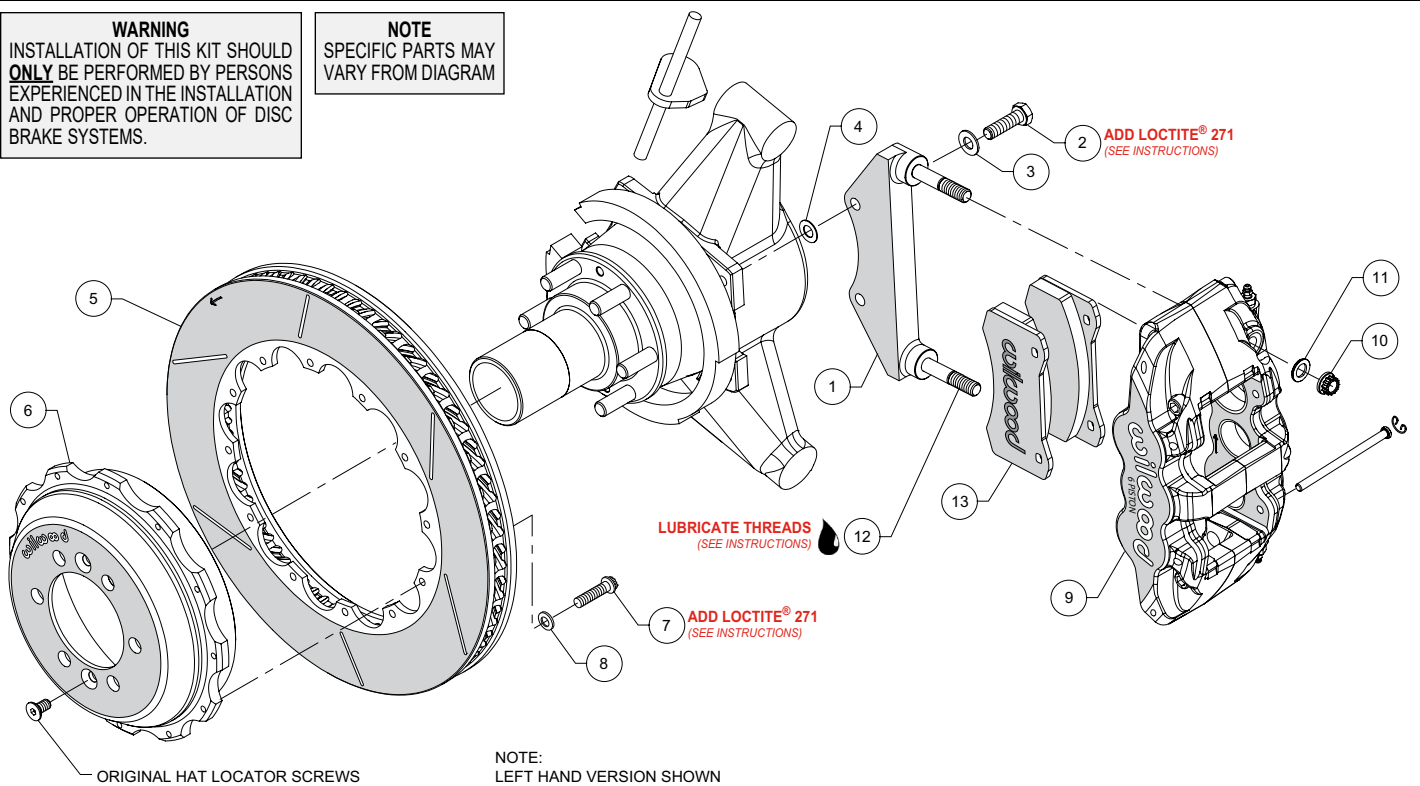
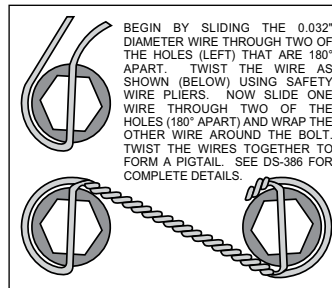

Figure 1. Typical Installation Configuration
Figure 3. Safety Wire Diagram
**NOTE:** Numbers in parenthesis refer to the parts list and Figure 1 on the preceding pages.
- The caliper mount bracket (1) should initially be installed with clean, dry threads on the mounting bolts. Orient the bracket as shown in Figure 1 and Photo 1, and install using bolts (2) and washers (3). Initially place one .030 thick shim (4) on each bolt between the bracket and upright, Figure 1. Temporarily tighten the mounting bolts. **NOTE:** The bracket must fit squarely against the mounting points on the upright. Inspect for interference from casting irregularities, machining ridges, burrs, etc. Later, after the caliper alignment has been checked, the mount bolts will be secured using red *Loctite*® 271.
- Orient the rotor (5) and the hat (6) as shown in Figure 1 and Photo 2. Attach rotor to hat using bolts (7) and washers (8). Apply red *Loctite*® 271 to the bolt threads and torque to 155 in-lb using a criss-cross pattern. For an added measure of security, the bolts may be safety wired using standard 0.032 inch diameter stainless steel safety wire as shown in Figure 3. Please refer to Wilwood's data sheet DS-386 (available at [www.wilwood.com/Pdf/DataSheets/ds386.pdf](http://www.wilwood.com/Pdf/DataSheets/ds386.pdf)) for complete safety wire installation instructions.
- **NOTE:** This kit contains distinct right and left hand calipers that must be mounted in a specific direction, as described below. Lubricate the caliper mounting studs (12) with lightweight oil. Mount the caliper (9) onto the bracket (1) using lock nuts (10) and washers (11), Figure 1. Ensure that the caliper is mounted so the largest pistons are at the rotor exit end of the caliper, in relation to the direction of rotor rotation. Temporarily tighten the lock nuts and view the rotor through the top opening of the caliper. The rotor should be centered in the caliper, Photo 4. If not, adjust by adding or subtracting shims (4) between the bracket and the upright. Always use the same amount of shims on each of the two mounting bolts. Once the caliper alignment is correct, remove the bracket mounting bolts (2) one at a time, apply red *Loctite*® 271 to the threads, and torque to 35 ft-lbs.
- Remove the two pad retaining pins from the caliper (9) by carefully popping out the pin retaining clips and sliding out the pins. Insert the brake pads (13) into the caliper from the bottom, Figure 1 and Photo 5. With the friction material facing the rotor, secure the brake pads in place with the pad retaining pins and clips, Photo 6. Reinstall the caliper onto the caliper mounting bracket and torque the caliper lock nuts (10) to 47 ft-lb.